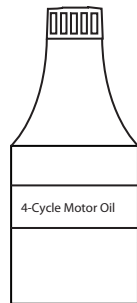

Fig. 5
Your unit is supplied with one 1.7 fluid oz. (50 mL) bottle of SAE 10W- 30 SF, SG or SH oil (Fig. 5).
1. Unscrew the top of the bottle of oil and remove the seal covering the opening. Replace the top. (Fig. 5).